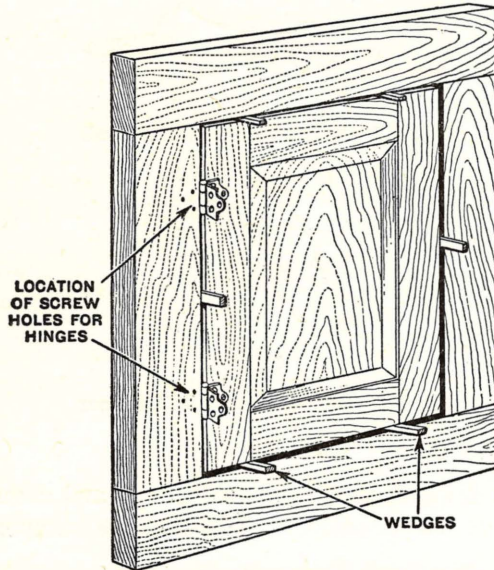

Fig. 449—A door should be held in place with wedges while the locations of the screw holes are marked
5. Wedge door in place as shown in Fig. 449. The space between the door and the frame should be the same all the way around.